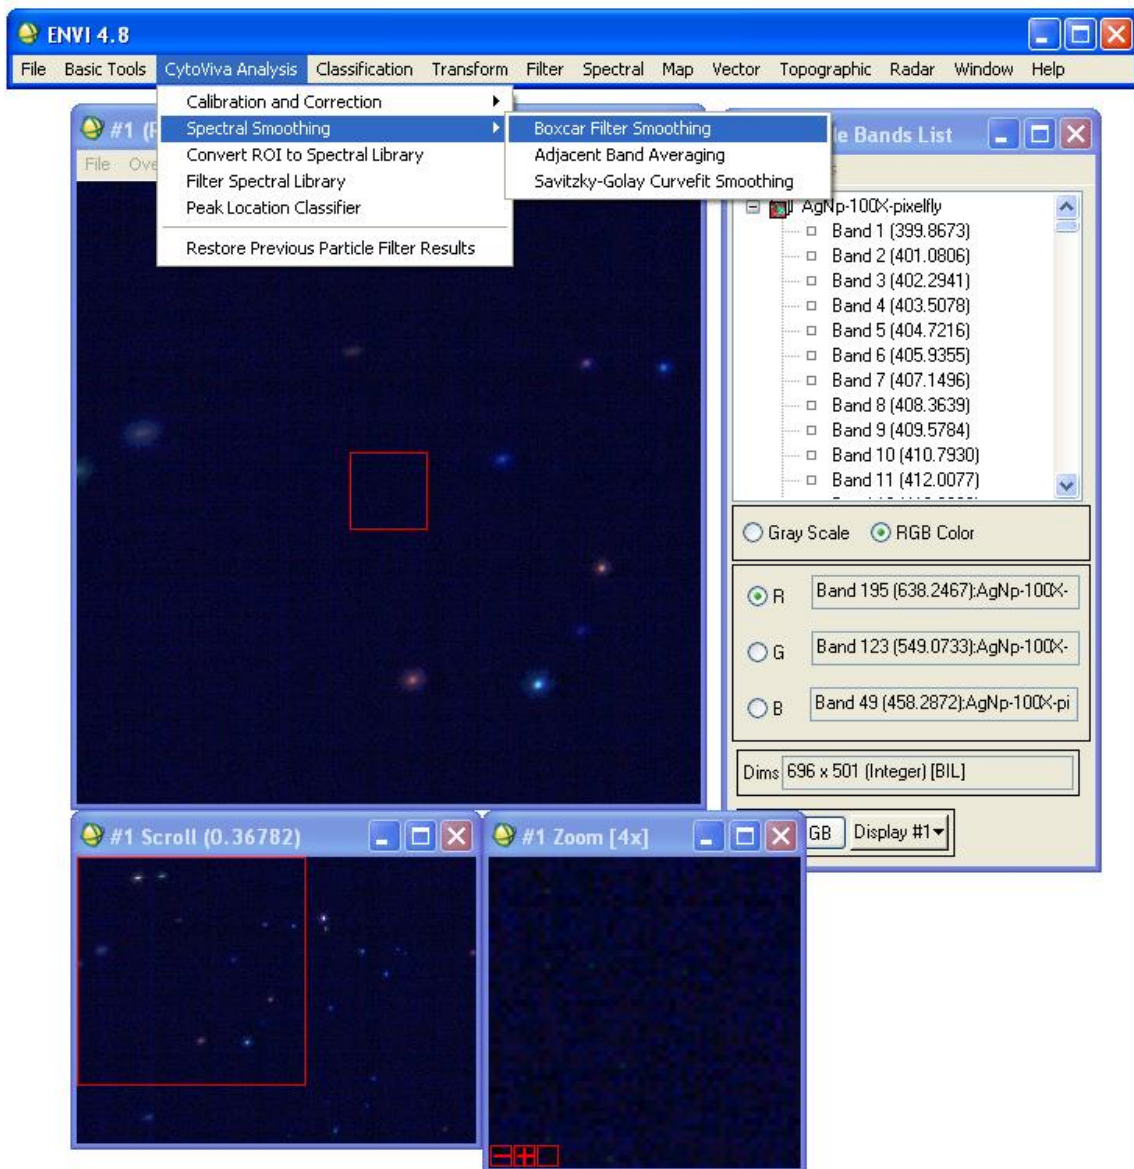

Figure 11a. CytoViva Analysis Tab
- Select Input File box opens. Select from list or choose Open, New. Click OK (Figure 11a).